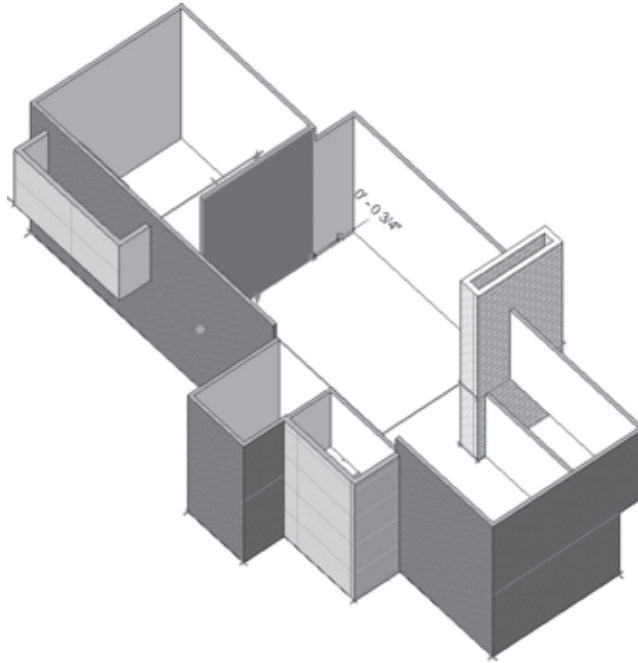

Figure 4.46
7. Now that the wall looks good, change its height so that its top constraint is T.O. Roof 3 using the Element Properties dialog box. Check out your results in the 3D view; see Figure 4.46.